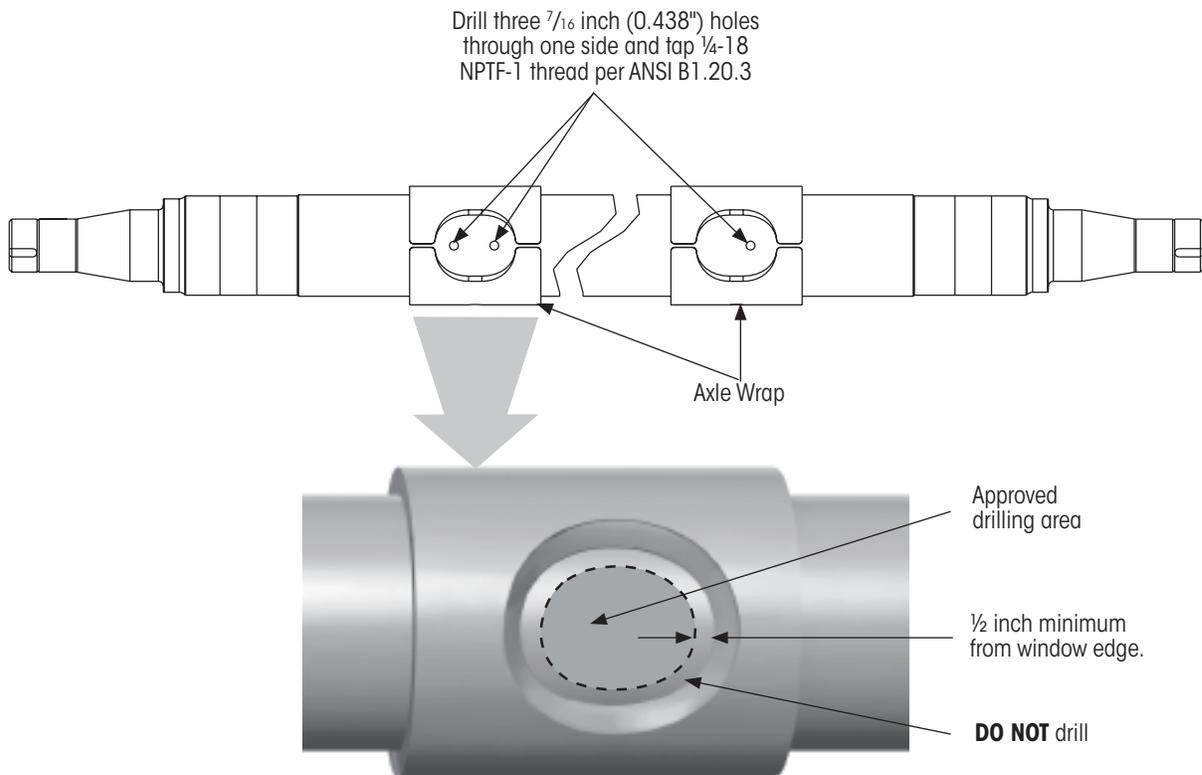
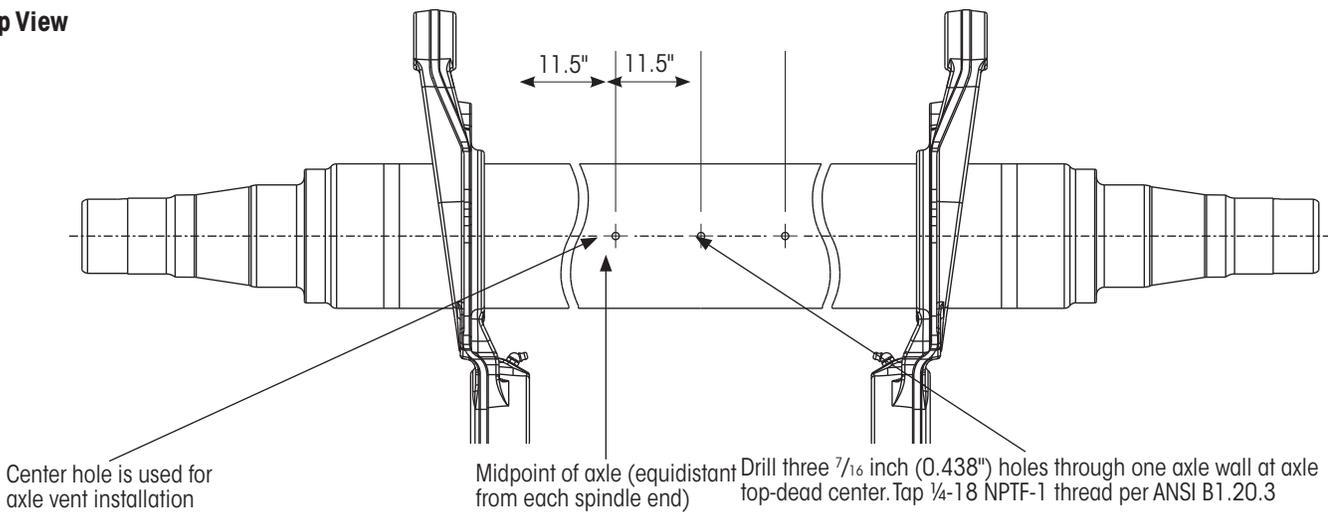

Figure 7: INTRAAX®/VANTRAAX® suspension axle drilling details
Figure 8: Hendrickson TRLAXLE® drilling details
9. Using the information in Figure 7 or Figure 8, drill and tap three ¼ inch - 18 NPT holes in the axle wrap windows (on INTRAAX and VANTRAAX suspensions) or at the midpoint of the axle (on Hendrickson TRLAXLE Trailer Axles).
NOTE: Figure 8 drilling details are for Hendrickson TRLAXLE®. If other than TRLAXLE, refer to CONTACTING HENDRICKSON.